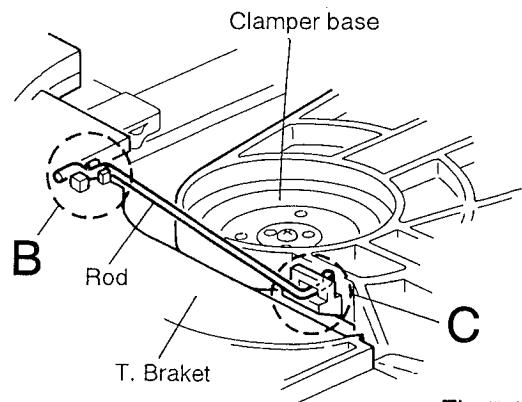

Fig.5-36
#### ■ Removing the CD tray assembly (See Figs. 5-36~5-38)
4. From the T. bracket section "B" and clamper base section "C", remove both of the edges fixing the rod (See Figs. 5-36 and 5-37).